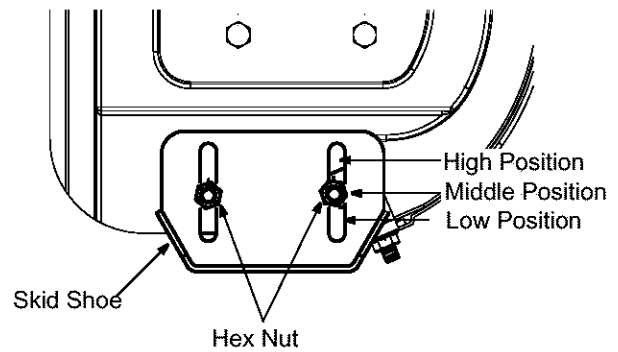

Figure 4
For close snow removal, place skid shoes in the low position. When the area to be cleared is uneven, place skid shoes in the middle or high position. See Figure 4.
1. Adjust skid shoes by loosening two hex nuts and carriage bolts on each skid shoe, and moving the skid shoe to the desired position. See Figure 4 .